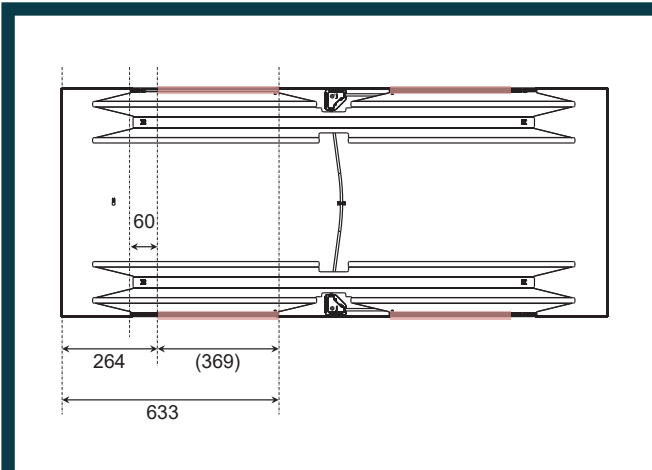
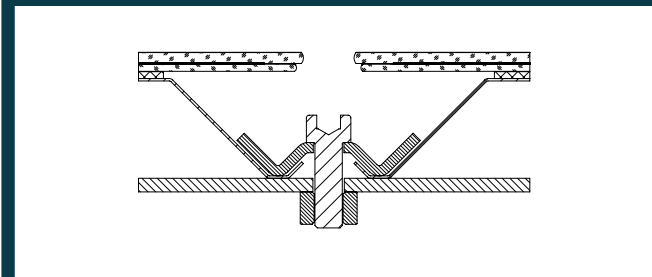

Fig. 4: Module rear side „In-Joint“ Variant
Fig. 5: Mounting of a SMART clamp „In-Joint“ variant
- As an alternative to the “Hook-In” configuration, AVANCIS PV modules are also available as “In-Joint” variants (Figures 4 and 5). In this type of mounting, one SMART clamp holds 2 PV modules, except for the modules at the beginning and end of a module row. The SMART clamps shall only be mounted as shown in figure 5.